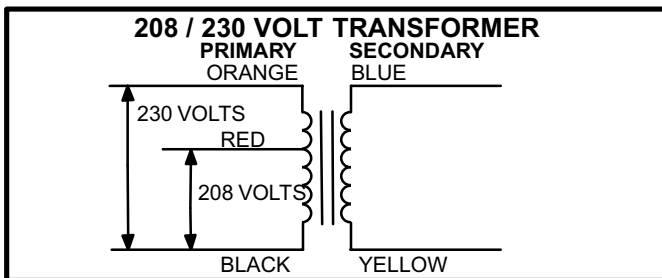

FIGURE 4
All GCS16 series units use a single line voltage to 24VAC transformer mounted in the control box. The transformer supplies power to control circuits in the unit (except the heating section). Transformer is rated at 70VA. 208/230 (P) voltage transformers use two primary voltage taps as shown in figure 4.